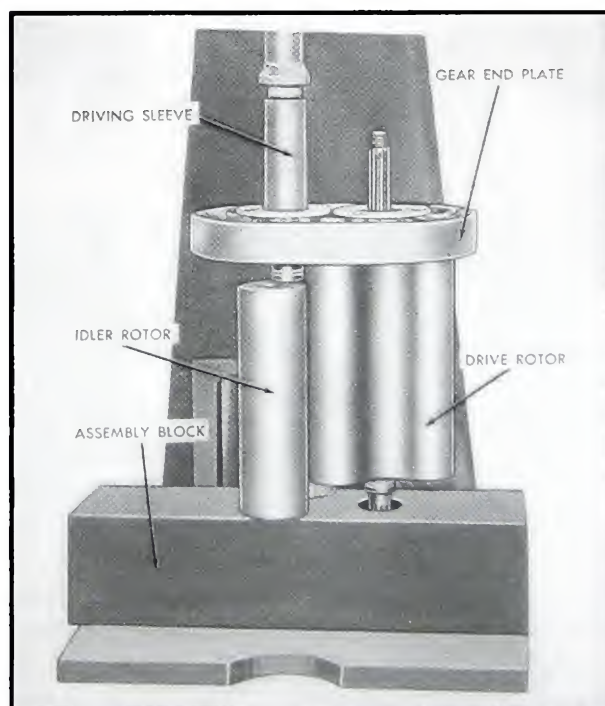

Fig. 10-7. Pressing rotors in gear end plate
4. Assemble a bearing spacer to each rotor shaft and assemble gear-end end plate to the rotor shafts as shown in Fig. 10-7.
7. Assemble each rotor into proper bearings in gear end plate carefully to avoid breaking the piston ring seals. See Fig. 10-7.